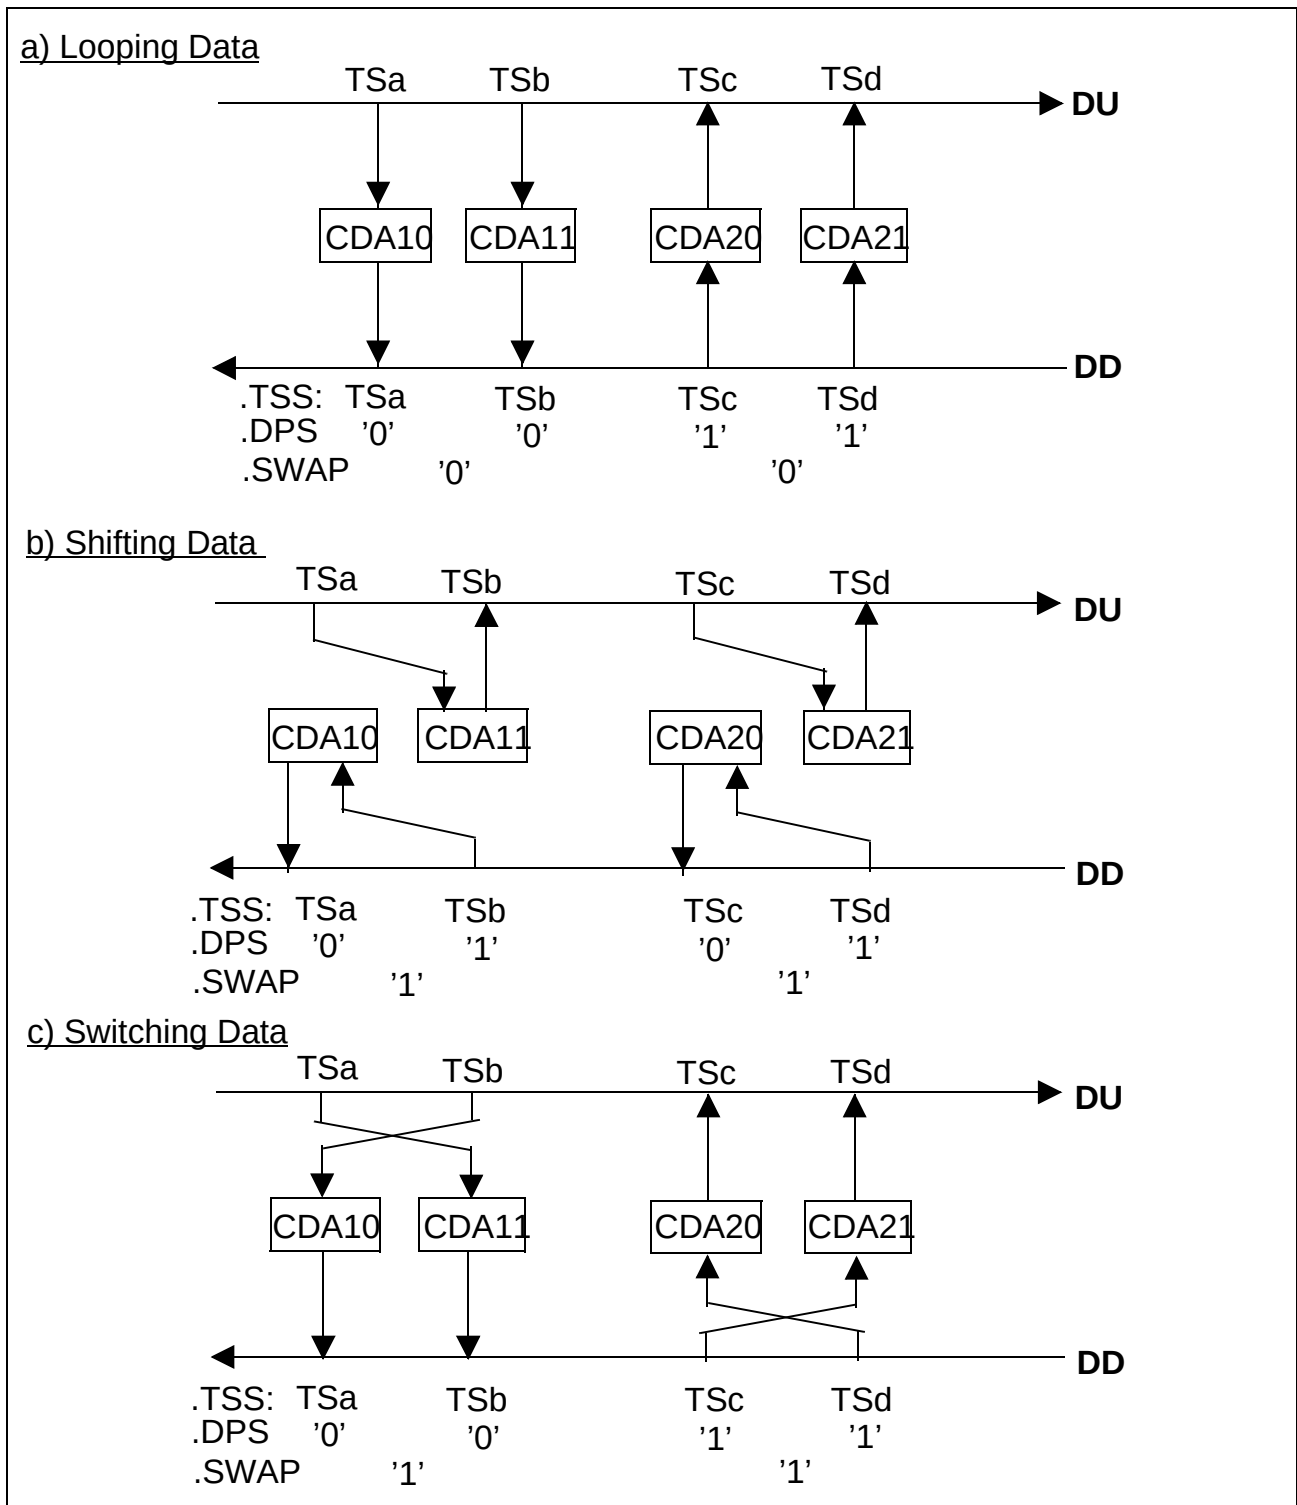

**Figure 50 Examples for Data Access via CDAxy Registers**
**Figure 50** gives examples for typical configurations with the above explained control and configuration possibilities with the bits TSS, DPS, EN and SWAP in the registers TSDPxxy or CDAXx\_CR: